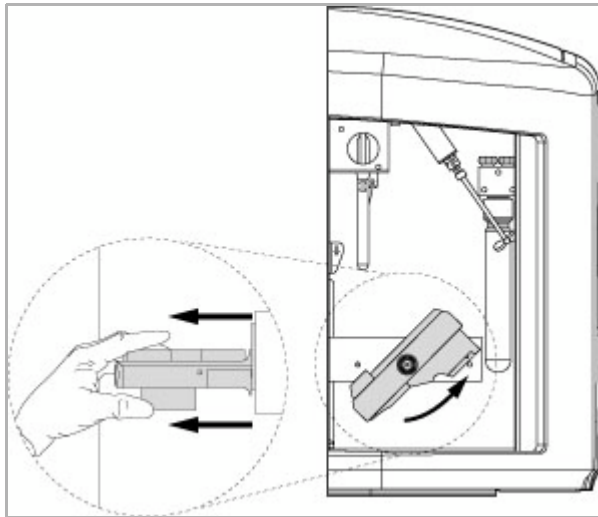

Figure 1.7 Reversing the Sample Platform
4. Continuing to hold the platform away from the rear of the sample compartment, turn the platform until it contacts the stop pin (Figure 1.7).